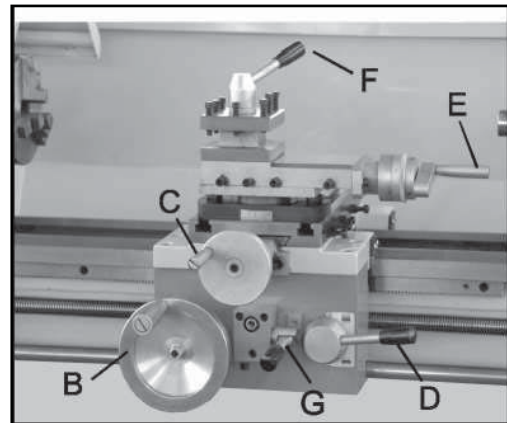

Fig. 15
10. Longitudinal Traverse (B, Fig. 15)
11. Cross Traverse Handwheel(C, Fig. 15)
12. Half Nut Engage Lever (D, Fig. 15)
13. Compound Rest Traverse Lever (E, Fig. 15)
14. Tool Post Clamping Lever (F, Fig. 15)
15. Feed axis Selector (G, Fig. 15)
Push lever (G, Fig.15) to the left and down to engage cross feed Pull lever to the right and up to engage longitudinal feed.